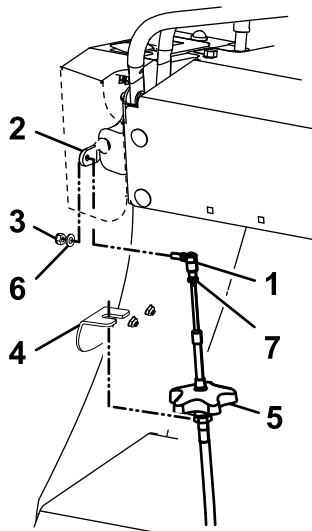

Figure 4
1. Making sure the cable ball joint is securely attached to the cable, connect it to the control arm and secure with a washer and 1/4-28 inch nyloc nut as shown in Figure 4.
6. Move the flow control lever forward and rearward making sure the gate arm is opening and fully closing. If it is not closing, loosen the knob and/or nuts to adjust the cable until the gate can be fully closed; retighten all components. Make sure the jam nut has been securely tightened against the cable ball joint after all adjustments have been made (see Figure 4).